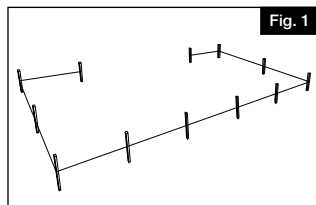

Fig. 1
- Establish your fence line by staking out the areas you wish to enclose. Locate each point in which you will need an end, corner or gate post and mark it with a stake (Fig. 1).
As the post is setting up, install the first fence panel. Insert the horizontal rails from the panel into the punched holes from the previously installed post. Place the rails as far into the post as they will go (Fig. 1).